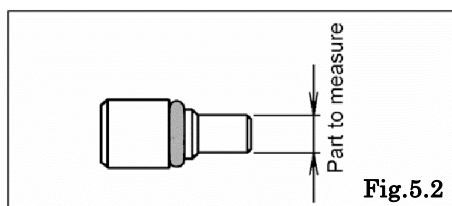

Fig.5.2
- Pilot valve assembly [Fig.5.2]